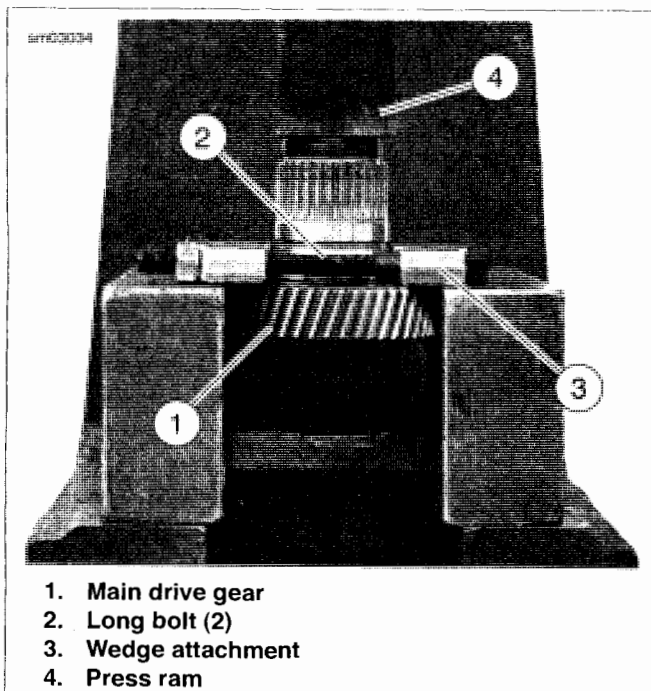

Figure 6-34. Removing Inner Bearing Race From Main Drive Gear
- See Figure 6-34. When the main drive gear is removed, a portion of the bearing inner race remains attached to the main drive gear. If the main drive gear is to be re-used, this inner race must be removed first.
10. See Figure 6-34. Use WEDGE ATTACHMENT (Part No. HD-95637-46B) and LONG BOLTS (Part No. HD-95637-10) to remove inner race from main drive gear.